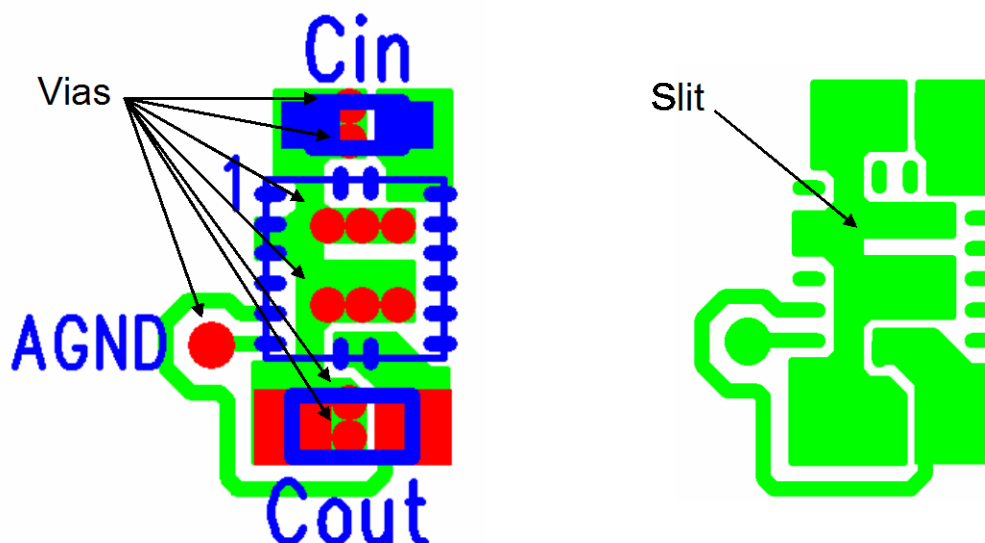

Figure 8. PCB layout recommendation
Refer to Figure 8 for the following layout recommendations.
**Recommendation 3:** The surface layer ground pour should include a “slit” as shown in Figure 8 to separate the input and output AC loop currents. This will help reduce noise coupling from the input current loop to the output current loop.